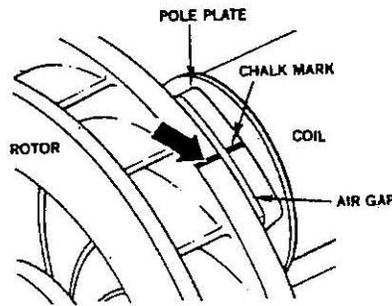

Figure 4
**Step 1** Mark one (1) pole plate and (1) position adjacent to each other on the rotor with colored chalk. Figure 4.